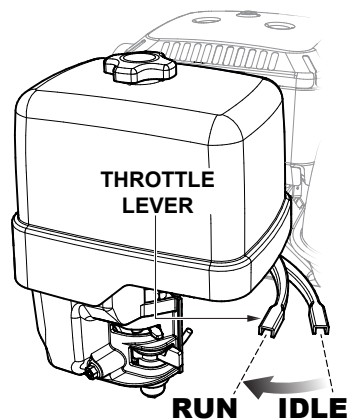

Figure 13. Engine Throttle Lever (Run)
11. To begin pumping, place the engine throttle lever (Figure 13) in the **RUN** position.